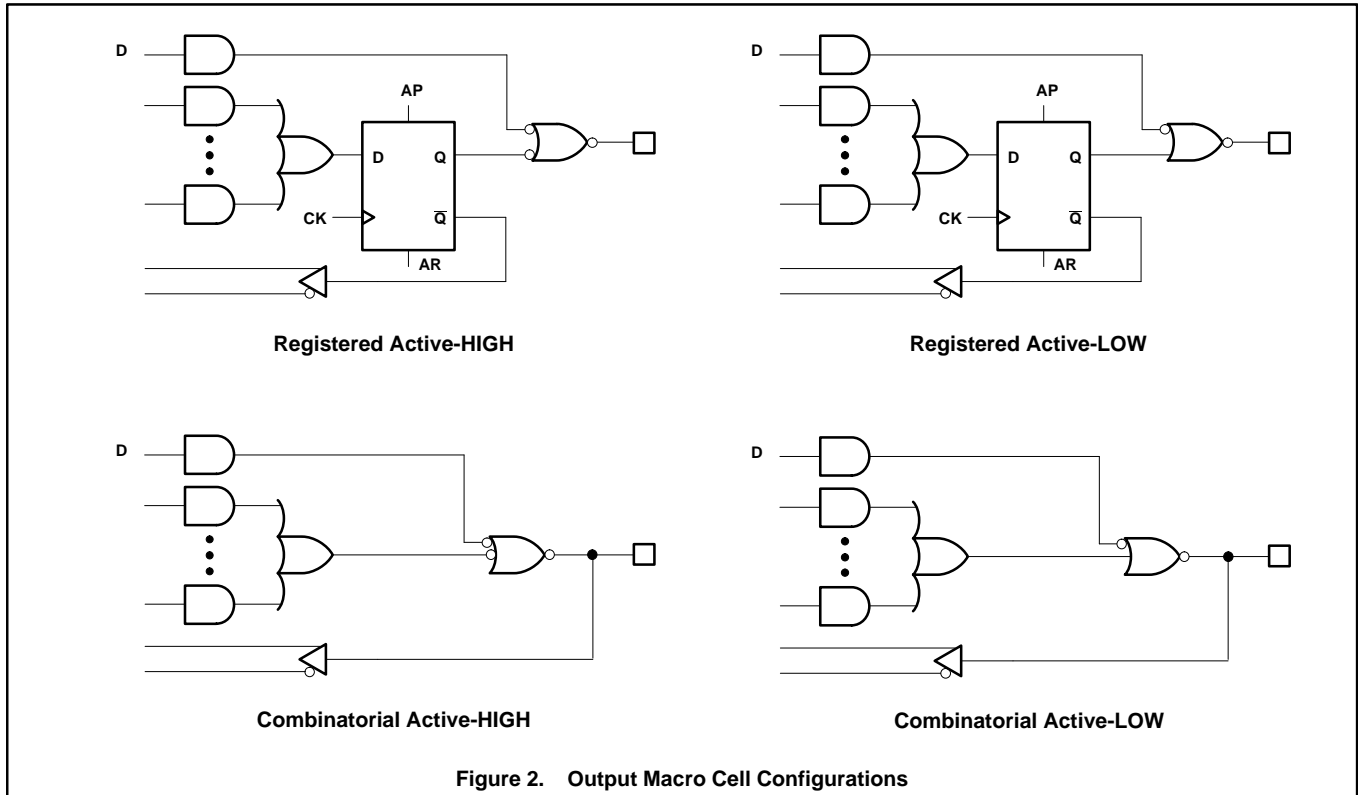

Figure 2. Output Macro Cell Configurations
Shown in Figure 2 are the four possible configurations of the output macrocell using fuses  $S_0$  and  $S_1$ . As seen, the output can either be registered Active-HIGH/LOW with feedback or combinatorial Active-HIGH/LOW with feedback. If the registered mode is chosen, the feedback from the Q output to the AND array enables one to make state machines or shift registers without having to tie the output to one of the inputs. If a combinatorial output is chosen, the feedback gate is enabled from the pin and allows one to create permanent outputs, permanent inputs, or I/O pins through the use of the output enable (D) product term.